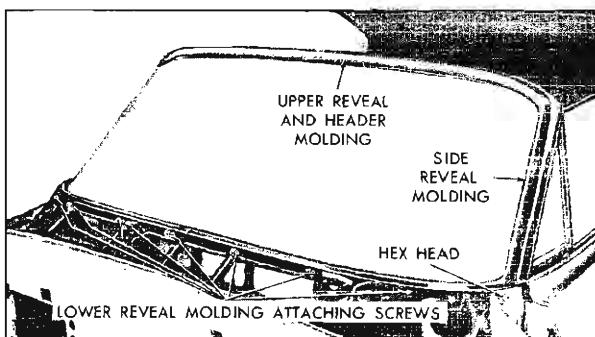

Fig. 2-3 Windshield Reveal Moldings
NOTE: The outermost attaching screw on each side of the lower molding is hidden by the front fender and may be removed by opening the front door. The outer molding clips are slotted allowing removal of the molding without completely removing the attaching screw (Fig. 2-3).
5. Remove lower reveal molding attaching screws except end screws. open door loosen both end attaching screws, lift up molding disengaging slotted clip from screws and remove molding (Fig. 2-3).